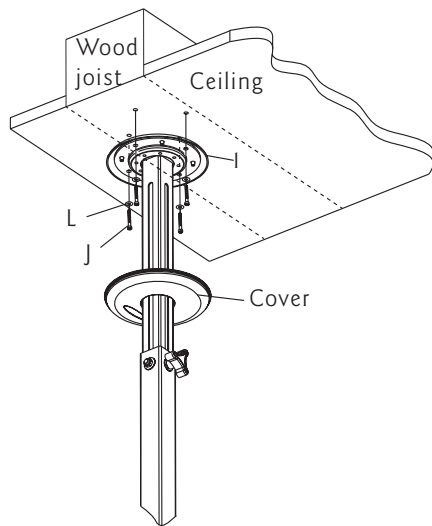

Fig 2a
Make sure that mounting screws are anchored into the center of the joist or beam. Use Ceiling plate as a template to mark the location of four holes. Pre-drill these holes with a 5mm drill bit to at least 40mm in deep hole. Fix the Ceiling plate to the ceiling with 4 long bolts(J) and washers(L)(Fig.2a).